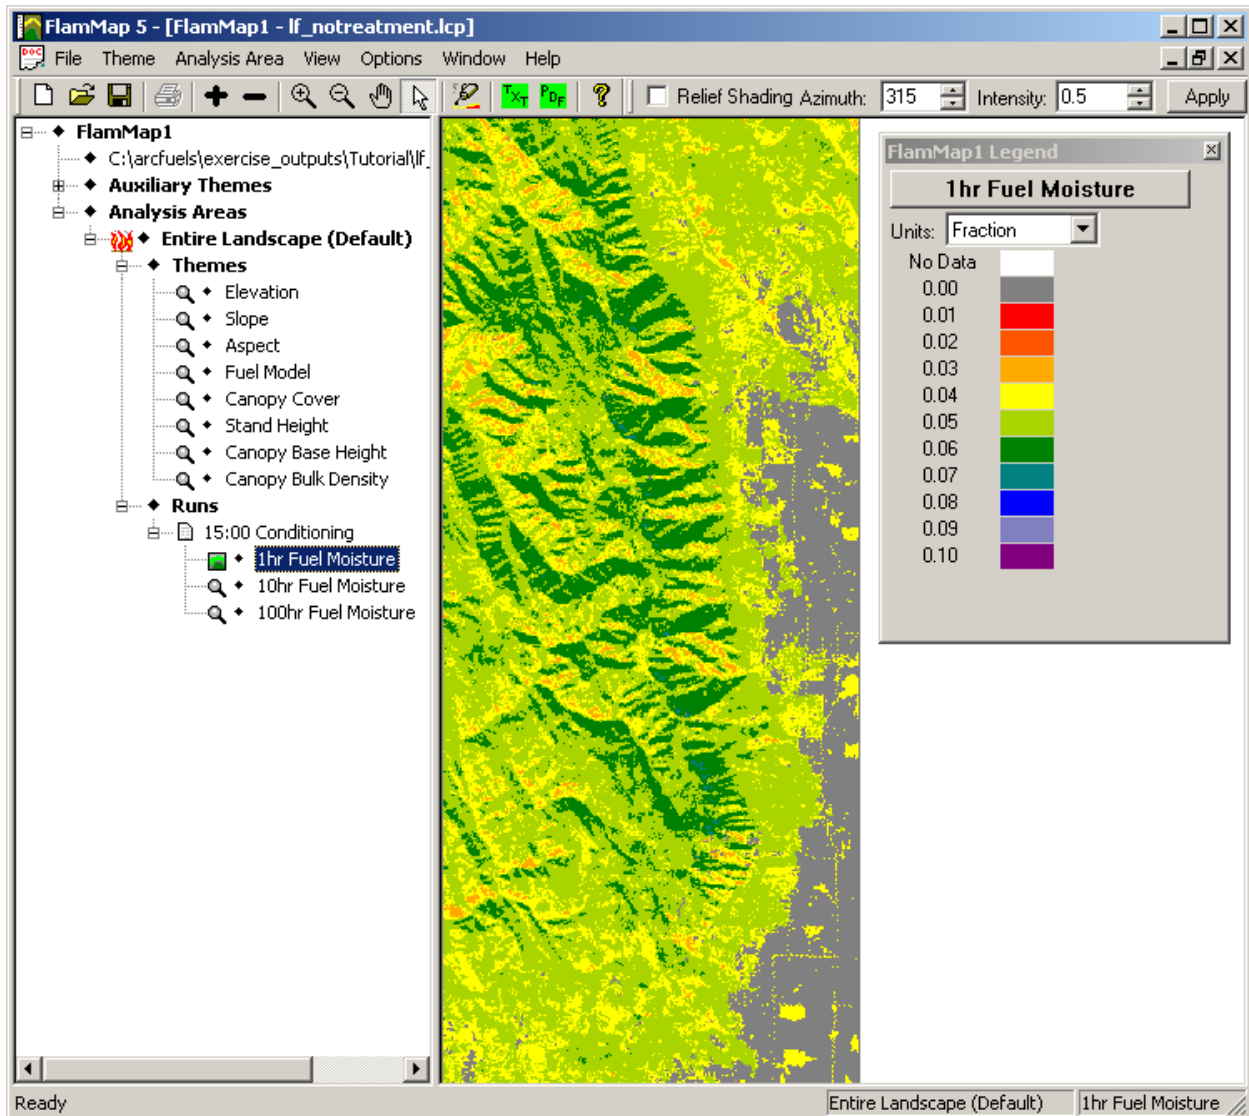

Figure 4-23—One-hour fuel moisture values after conditioning for 15:00 PM.
- 6) Under the **Runs** section, expand the 15:00 Conditioning run in the tree pane (fig. 4-23). Display the 1hr Fuel Moisture theme, and open the legend (double-click in the theme name). Notice the units are fractions rather than percentage, so a 0.03 fraction is 3% moisture. Remember the 1hr fuel moisture in the FMS file was 3% across the board, which is represented by orange in figure 4-23. Look at the map and think about why the fuel moistures changed where they did. Look at different themes from the LCP if that helps. Is it possible to have fuel moisture of 0? Hint: take a look at the fuel model layer. Look at the 10-hr and 100-hr fuel moistures themes as well.